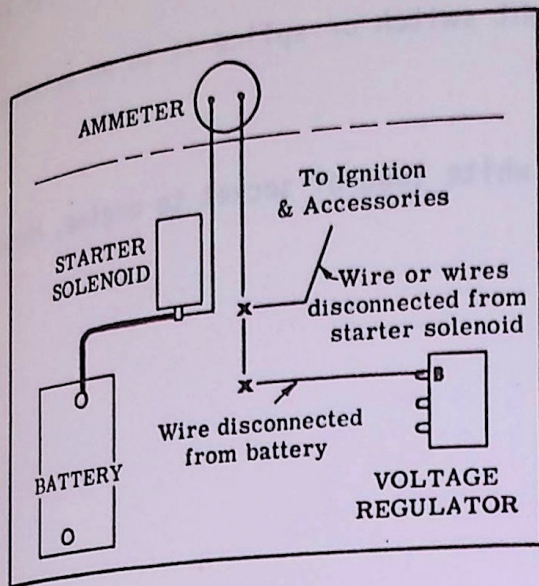

FIGURE 7-1
7.3.2 Disconnect wire which is connected to battery terminal of voltage regulator from battery (Figure 7-1).